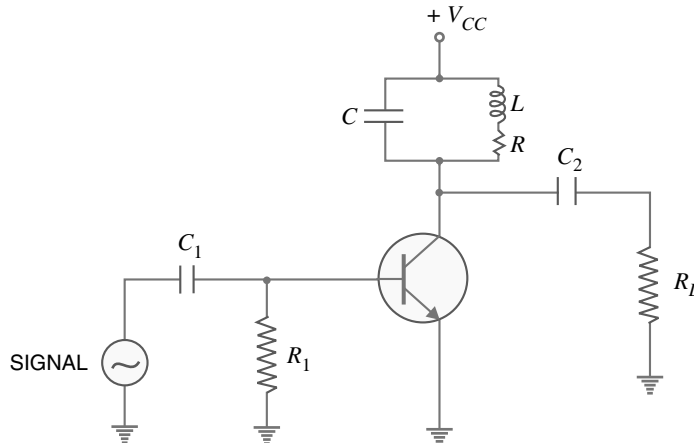

Fig. 13.23
Fig. 13.23 shows the circuit of tuned class  $C$  amplifier. We shall determine the d.c. and a.c. loads of the circuit.
**Example 13.16.** In the circuit shown in Fig.13.23,  $C = 500 \text{ pF}$  and the coil has  $L = 50.7 \text{ } \mu\text{H}$  and  $R = 10 \text{ } \Omega$  and  $R_L = 1 \text{ M}\Omega$ . Find (i) the resonant frequency (ii) d.c. load and a.c. load.